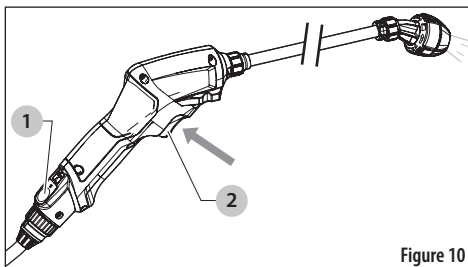

Figure 10
1. Push the power button (1) to turn ON. The light above the power button turns on. See Figure 10.
2. Aim the power wand sprayer in the desired direction of spraying and squeeze the trigger (2).
3. To turn off the power wand sprayer, push the power button (1) to the OFF position. The light above the power button turns off.